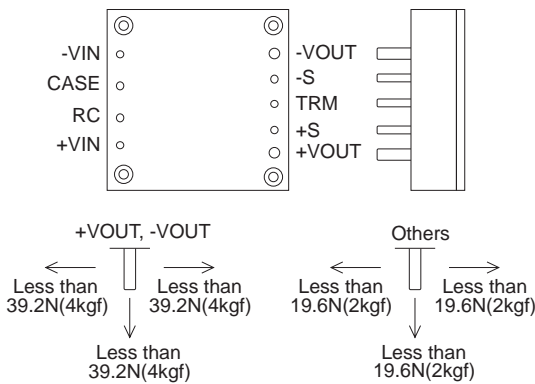

Fig.6.1 Stress onto the pins
- When excess stress or bending force is applied to the pins of the power supply, the internal connection may be weakened. As shown in Fig.6.1 avoid applying stress of more than 39.2N(4kgf) on +VOUT/-VOUT pins and more than 19.6N(2kgf) to the other pins.